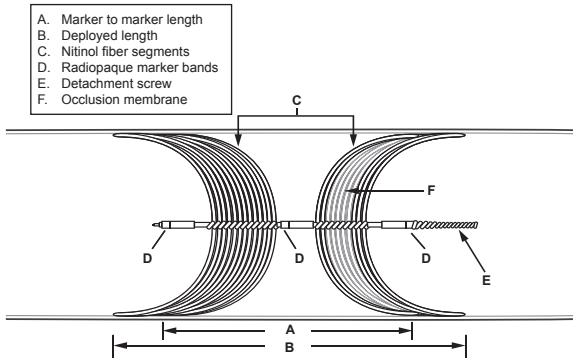

Figure 1: Caterpillar™ and Caterpillar™ Micro Device components
The Caterpillar™ and Caterpillar™ Micro Arterial Embolization Devices are self-expanding arterial occlusion plugs. The devices consist of the following components and are intended to be a permanent implant (Figure 1): cobalt-chrome stem, nickel-titanium fibers, platinum-iridium radiopaque marker bands, and a polyurethane and polyethylene occlusion membrane. These devices are intended for arterial vessel embolization in the peripheral vasculature.
- The Marker to Marker Length is the distance between the most distal radiopaque marker band to the most proximal radiopaque marker band (Figure 1, A).
- The Maximum Deployed Length is the length from the distal fiber tips to the proximal fiber tips in the minimum target artery diameter (Figure 1, B).